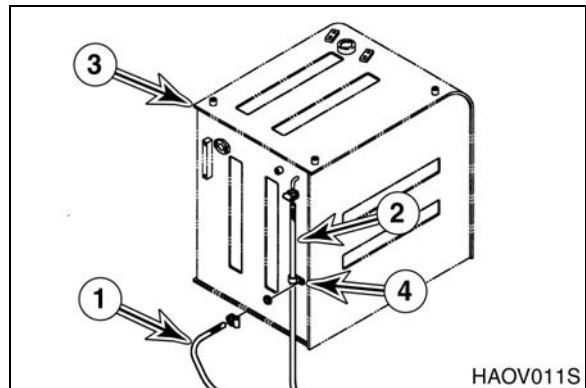

Figure 7
15. Tag and disconnect fuel supply line (1, Figure 7) and fuel return line (2) from the tank (3) and carefully drain remaining fuel from the lines.
16. Remove clamp (4, Figure 7) holding fuel return line (2) to tank (3).